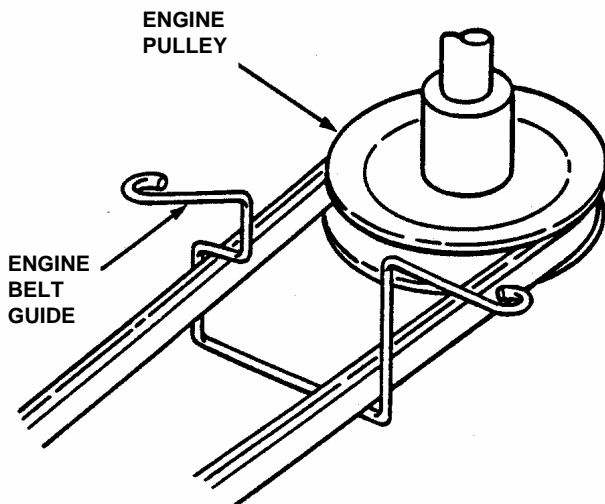

FIGURE 4.12
5. Move transmission shift lever to the neutral (N) position.
7. To clear the primary chain case, move transmission shift lever to the #5 position. Route belt around drive disc and into drive pulley belt groove. See Figure 4.12.